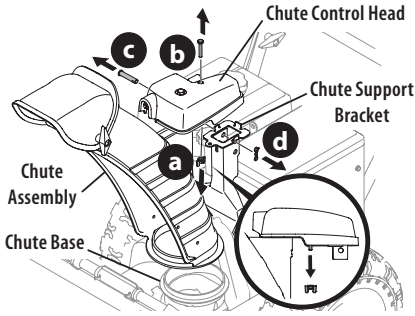

Figure 13
1. Remove wing nut (a) and hex screw (b) from chute control head and clevis pin (c) and cotter pin (d) from chute support bracket. Position chute assembly (forward-facing) over chute base and chute support bracket (Figure 13).